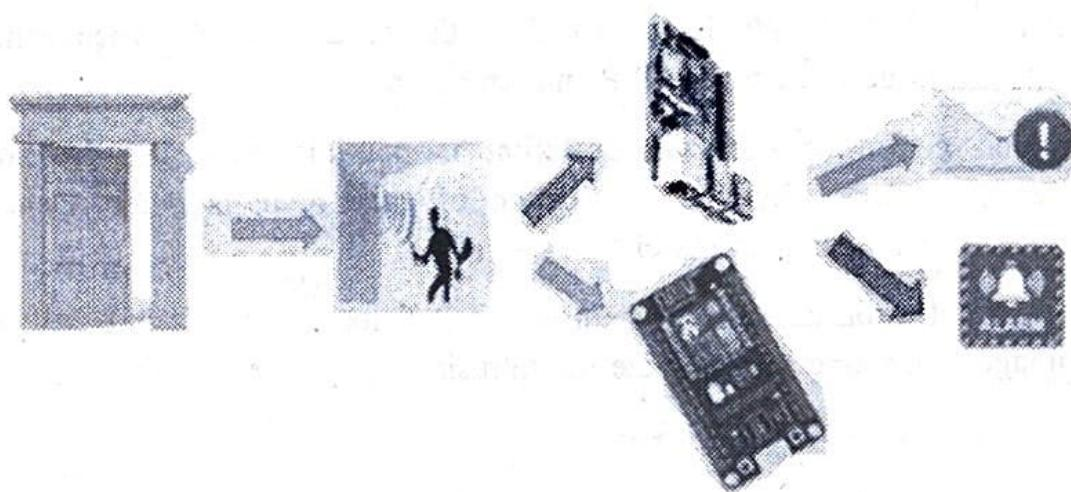

Fig. Q.20.1 Block diagram of Intrusion detection
- Fig. Q.20.1 shows block diagram of intrusion detection.